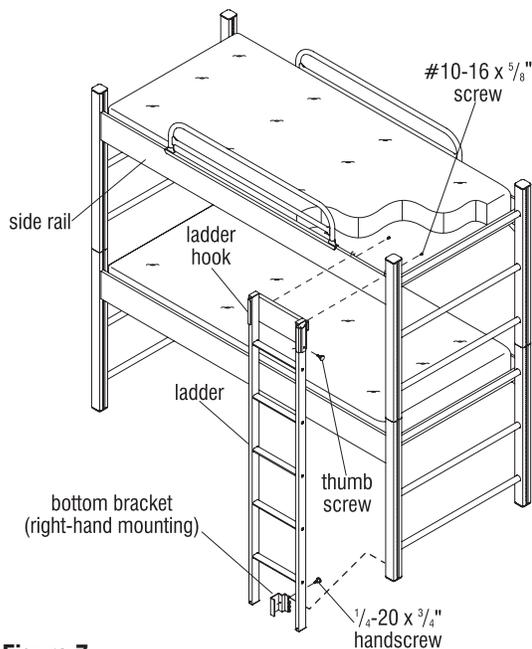

Figure 7
1. Place the ladder for bed deck vertically against the upper bed rail, engaging the ladder hook over the top of the upper bed rail at the location it will secure to (Figure 7).
2. Position ladder to be vertical, not angled to the bed. Press down on ladder hook and tighten thumb screw (Figure 7).
3. Using two #10-16 x 5/8" screws, secure the back tab of the ladder hook to the interior of the side rail through the pre-drilled mounting holes in the back tab (Figure 7).
1. Begin installation by leaning the ladder against the upper bunk of loft side rail at the location where it is to be installed. Position the ladder hook over the ladder as illustrated. Hook the back tab of the ladder hook onto the side rail. Do not secure ladder hook to ladder or side rail at this time (Figure 7).
2. Position a bottom bracket as shown, to capture the lower end of the ladder leg with the bracket and hook the teeth of the bracket into the slot in the end frame close to the floor. Press down to secure bracket to end frame, then attach the 1/4"-20 x 3/4" handscrew through the bottom bracket mounting hole and into the ladder. (Figure 7).
3. Press down on the ladder hook at the top and tighten thumb screw (Figure 7).
4. Locate the two mounting holes in the back side of the ladder hook. Using a #21 (.159" dia) drill bit, and the ladder hook mounting holes as a template, drill two holes through the metal at the inside of the side rail. Bore holes to not more than 1/2" deep (Figure 7).
5. Using two #10-16 x 5/8" screws, secure the back tab of the ladder hook to the interior of the side rail through the pre-drilled mounting holes in the back tab and into the wood of the side rail (Figure 7).